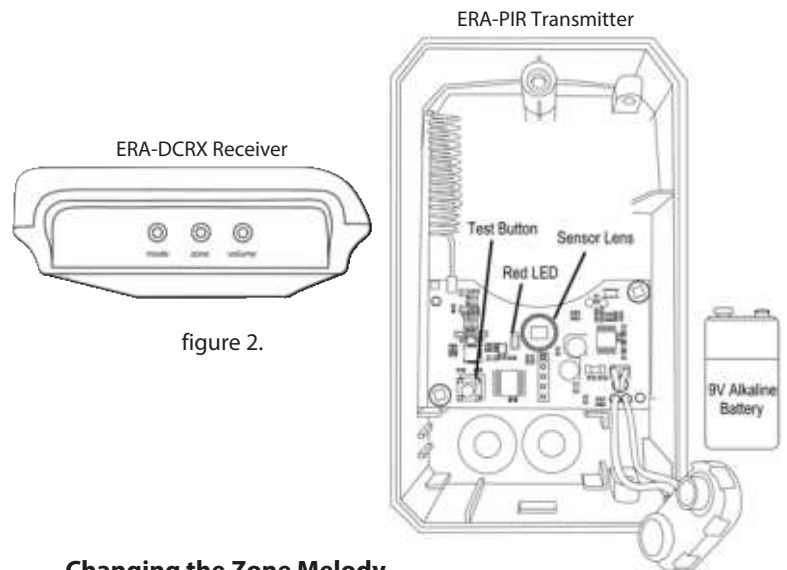

figure 2.
2. Remove top half of case from lower half of the case to find the battery holder (see figure 2).
1. On the ERA-DCRX receiver, hold down the "mode" (left button in figure 2 below) button until you hear a short tone sound & the "zone 1" LED flashes (approx 3 sec).
1. Hold down the "zone" button until you hear a short tone & all LEDs on front panel of receiver are red (approx 3 seconds). The zone you are programming will flash (see figure 2).